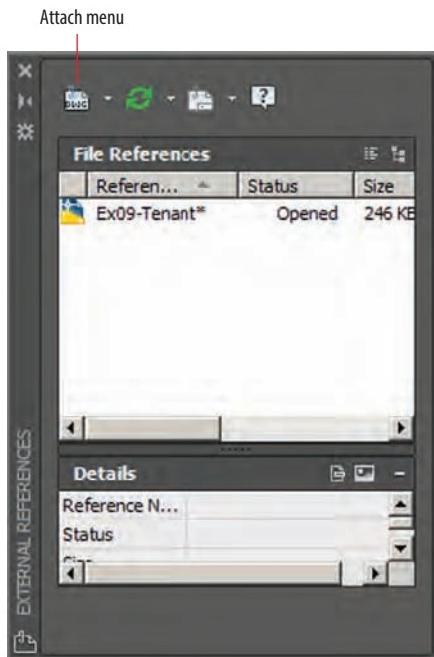

FIGURE 9.27 Attaching a DWG file in the External References palette
2. Select the file tab of Ex09-Tenant.dwg. Then select the ribbon's View tab and click the External References Palette button in the Palettes panel. Open the Attach menu, as shown in Figure 9.27.